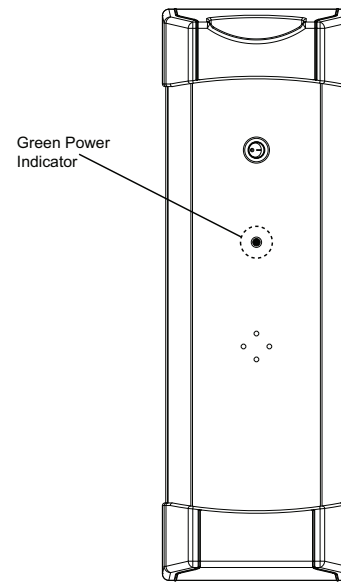

Fig. 18 – Power Indicator (Green LED)
4. The green indicator light above the Air Purifier power switch should illuminate (see Fig. 18).
The Air Purifier is equipped with a power indicator light located on the door (see Fig. 18). This power indicator light will illuminate when the Air Purifier door is installed, the power switch is in the on position, AND the furnace blower is running. If a Flow Sensor Kit (model KIT160000) is installed in the Air Purifier and there is no airflow, the power indicator light will blink slowly (once every 3 seconds) indicating that the purifier is in "STANDBY" mode.
NOTE: The green indicator light on door cover shown in Fig. 18, Power Indication (Green LED).